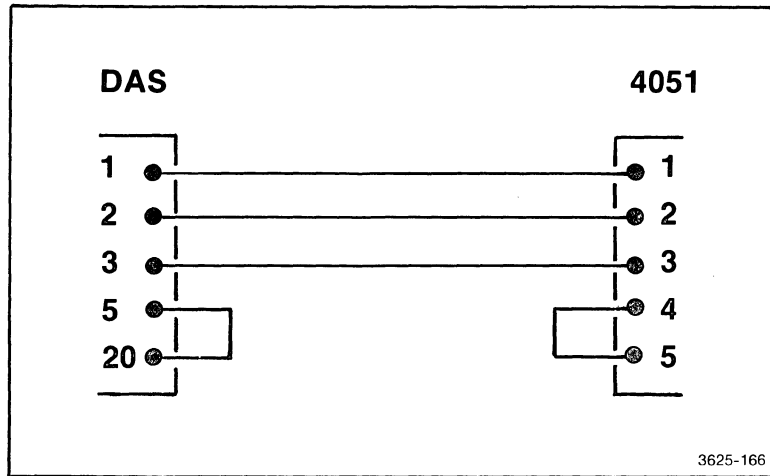

Figure 5-37. Connector between the DAS and the modem output of the 4051.
- null modem (constructed according to Figures 5-37 and 5-38).
2. The 4051 Option 01 has two possible output configurations; that of a terminal, or that of a modem. The standard output of the communications option is like a modem. If you are using the standard output of the 4051, then construct the null modem shown in Figure 5-37.